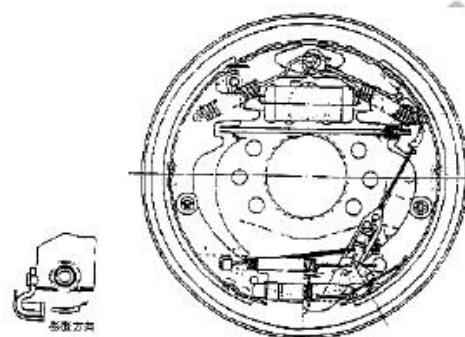

Figure 13
3、The operation test of automatic gap adjuster shown as in Figure 13